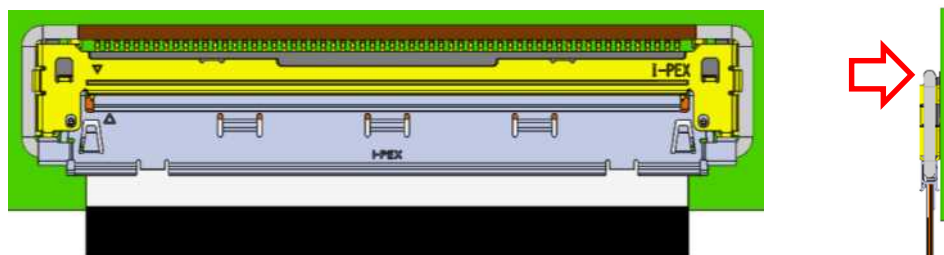

Fig. 7 Locking lock bar
② : Push down the lock bar to hook receptacle shell to lock connectors. [Fig. 7]